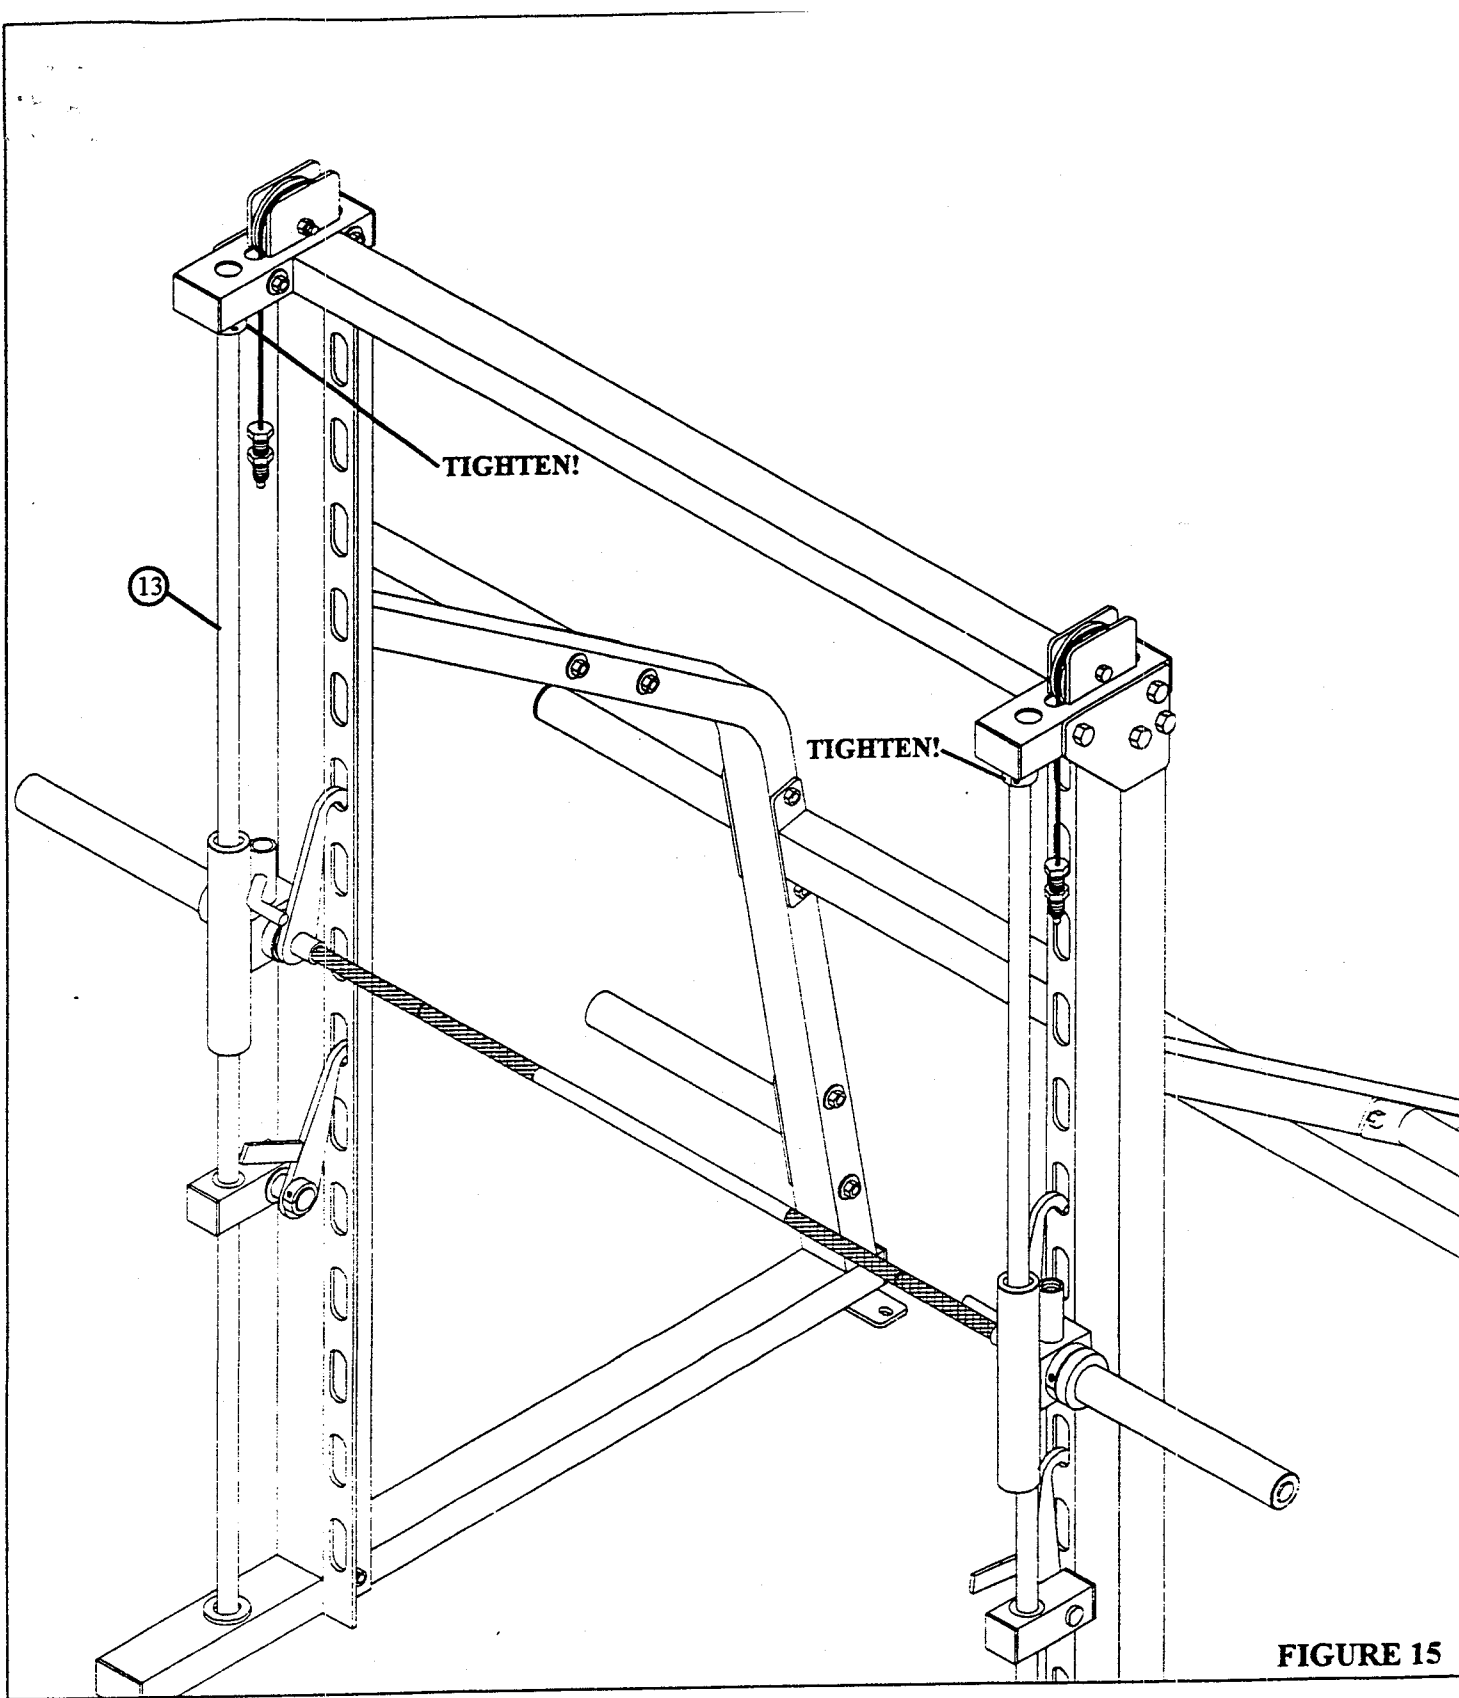

FIGURE 15
- Loosen each 1" SHAFT COLLAR (24) and slide each one up firmly against the BUSHINGS of the UPPER SUPPORT (11). See FIGURE 15.
- Using a 3/16" Allen wrench, SECURELY tighten each set screw on the 1" SHAFT COLLARS (24). See FIGURE 15.